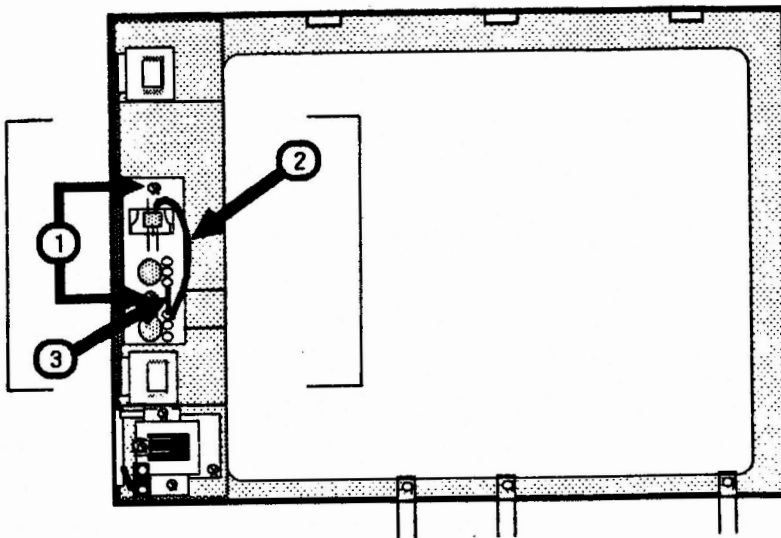

FIGURE 22
8. Remove the two screws (Figure 22, #1) that mount the metal plate to the front bezel and remove the plate.
9. If you are removing the brightness control from an AppleColor Monitor 100 Rev. 0, locate the wire (Figure 22, #2) that connects the brightness pot to the slide switch. Desolder and remove the wire from the brightness pot contact. If you are removing the contrast control, skip to step 11.
**NOTE:** The wire is not present on the AppleColor Monitor 100 Rev. A. Instead, there is a resistor connecting the brightness pot to the contrast pot (Figure 22, #3). If you are removing the brightness control, desolder the end of the resistor attached to the brightness pot. If you are removing the contrast control, desolder and remove the end of the resistor attached to the contrast pot.